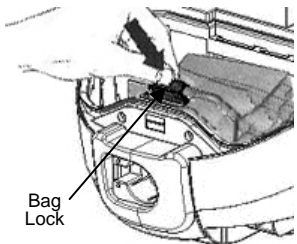

Fig. 8
- Lock the bag in its place with the lock as shown in Fig. 8.